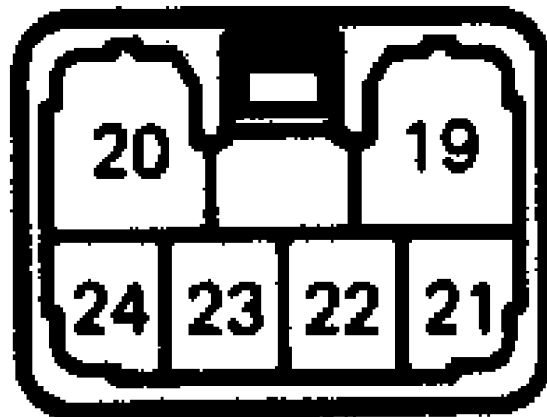

Fig. 6: Control Panel Connector Identification
Disconnect electrical connector at control panel. Connect jumper lead from battery positive terminal to terminal No. B5. Connect jumper lead from battery negative terminal to terminal No. B2. With A/C control switch pushed in, check that indicator light is lit. See Fig. 6
Disconnect electrical connector at control panel. Using an ohmmeter, check that continuity exists across terminals No. B5 and B6, and terminals No. B6 and B2 with A/C switch in the on position. There should be no continuity when A/C switch is off. See Fig. 6
SWITCH CONTINUITY table. See Fig. 6.
Disconnect electrical connector at control panel. Using an ohmmeter, check continuity across terminals at all switch positions. See AIR VENT CONTROL SWITCH CONTINUITY table. See Fig. 6
1) Disconnect electrical connector at control panel. Using an ohmmeter, check resistance across terminals No. A1 and A10. See Fig. 6.
1) Connect a battery positive jumper lead to terminal No. A2. Connect battery negative jumper lead to terminal No. A16. Recirc indicator light should come on. If light does not come on, replace switch. Remove battery jumper leads. See Fig. 6.